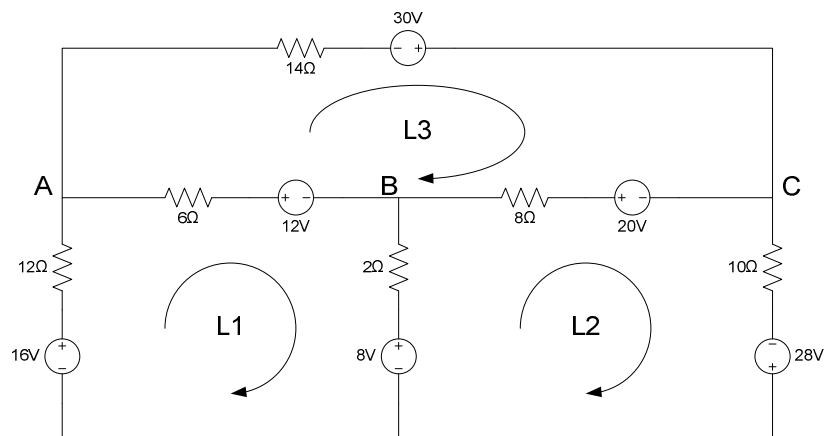

Figure Q4
4. Draw circuit schematic according to Figure Q4. Verify, using PSPICE simulations, KVL in all of the three loops L1, L2 and L3. Also, verify KCL for Node A, B and C.